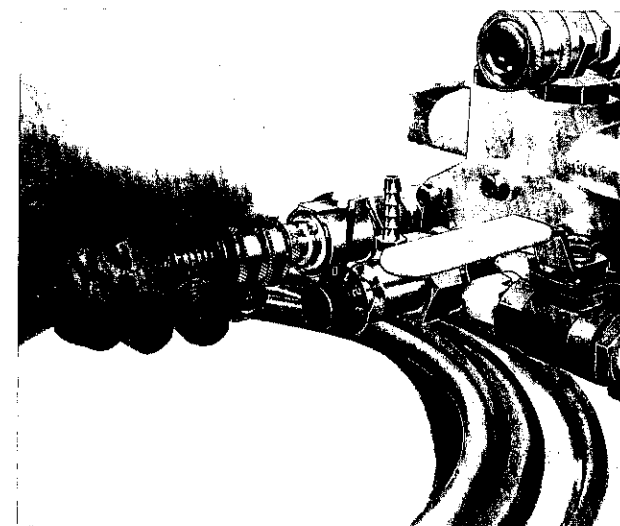

Figure 2. Connect water supply line to jetter. Close inlet supply valve (shown in closed position.)
1. Connect the water supply line to the jetter inlet and close the inlet supply valve. (Figure 2)